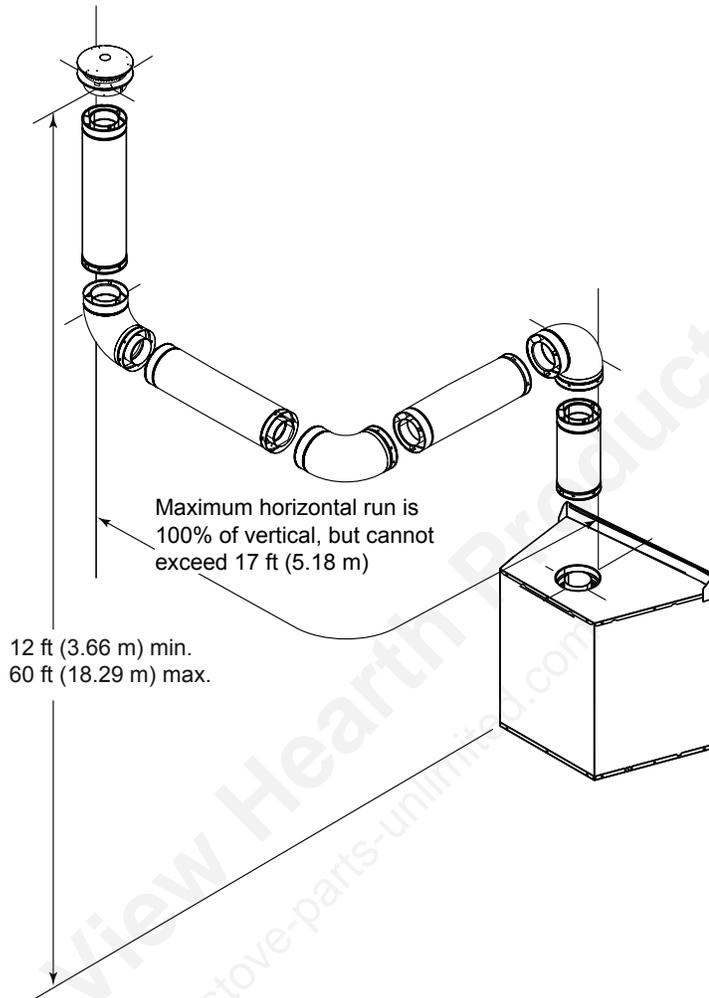

Figure 7.8
- A maximum of three 90° elbows (or six 45° elbows) may be used in any vent configuration. Some elbows may be installed horizontally. See Figure 7.8.